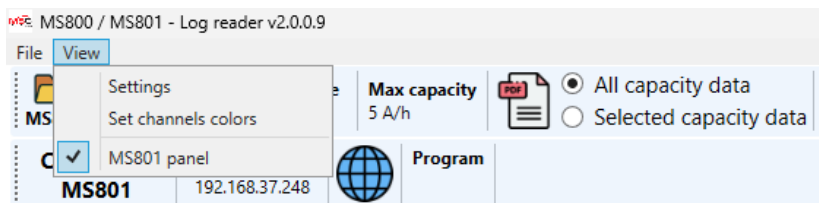

Figure 25
2. To enable communication with the tester, activate the “MS801 panel” option (see Figure 25).